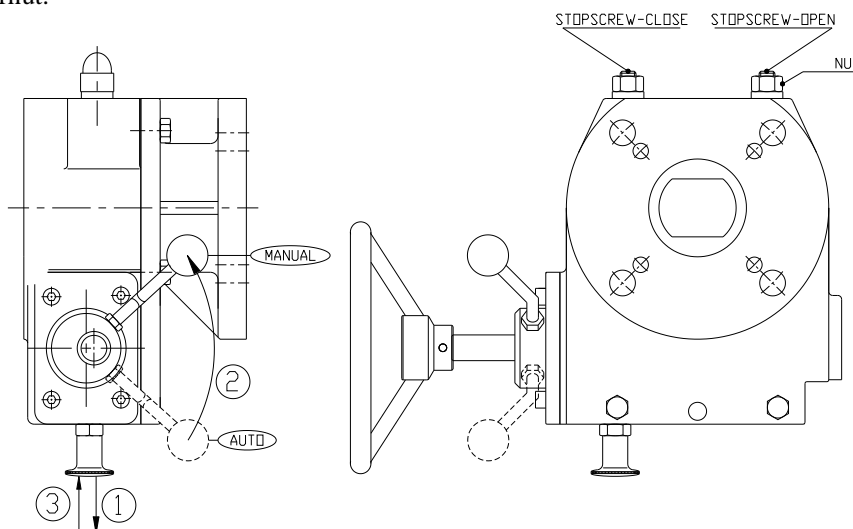
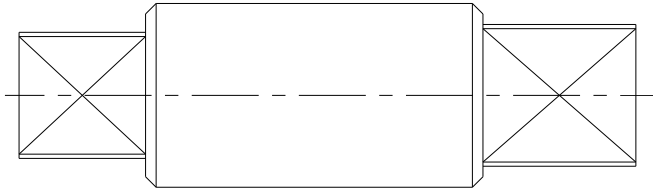

Figure 3 : ILG/D gearbox stopscrew adjustment
Figure 4 : Driveshaft example from an ILG/D gearbox
- achieved, loosen the stopscrew-open (see figure 3). Continue turning the handwheel until the valve is fully open.
8. Pull the knob outwards (1) and turn the handle (clockwise) until knob falls back into its locked-position (3).
- b. position the driveshaft (see figure 4) in top of the gearbox.